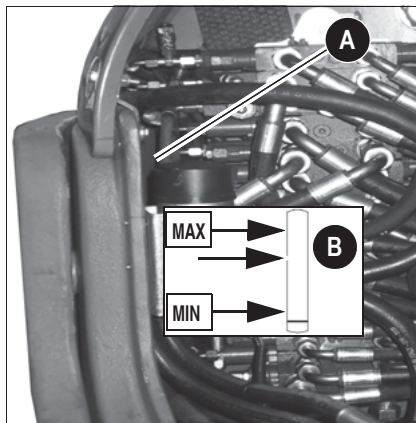

Fig. 281: Oil level indicator on the hydraulic oil reservoir
- The oil level must be about 1 cm (0.39 in) over the center, between positions **MIN** and **MAX**, as shown by the arrows in Fig. 281.